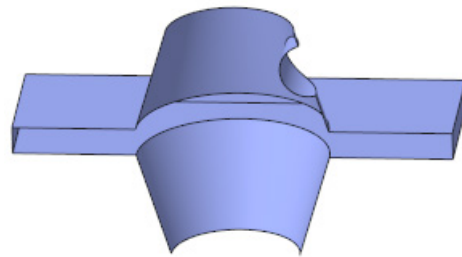

Figure 15-129 Model after merging the mirror copy of the blend surface with the base surface
5. Similarly, merge the mirrored feature and the base feature. The surface model after merging the mirrored surfaces is shown in Figure 15-129.